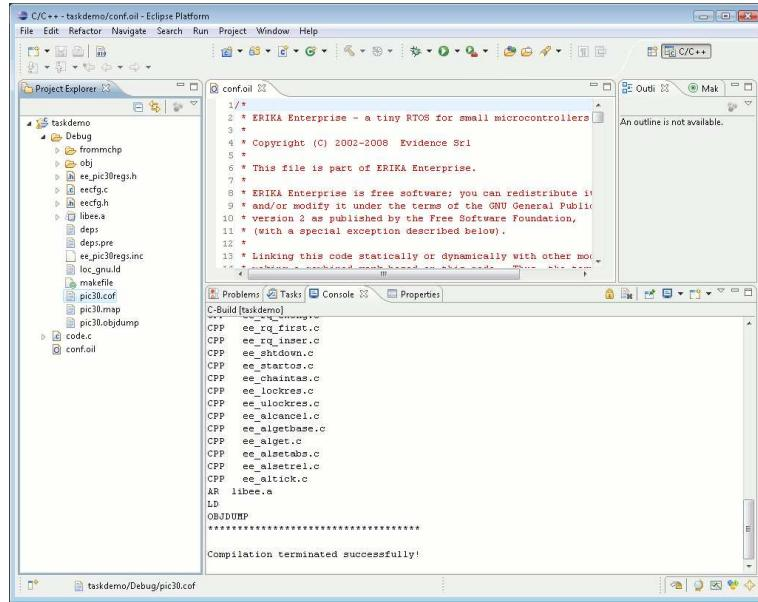

Figure 5.7: The output file is ready to be programmed on the target board.
7. At the end of the compiling process you will be able to find a file named ‘pic30.cof’ inside the `Debug` directory inside the project, as shown in Figure 5.7.